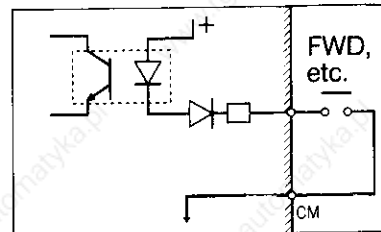

Fig. 6-2-1
(1) Control input terminals
The circuit configuration is shown in Fig. 6-2-1. If you use a contactor for input, use a contactor of high reliability which does not have any closing defects, for example the HH54PW control relay manufactured by Fuji Electric. Items (2) and (3) below have been wired at the time of shipment for easy operation.